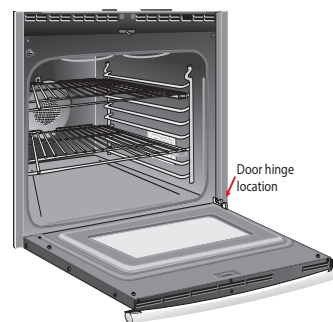

Figure 33: Door removal
1. Open oven door completely, horizontal with floor (Figure 33).
3. Fully open the oven door, horizontal with floor (Figure 33).